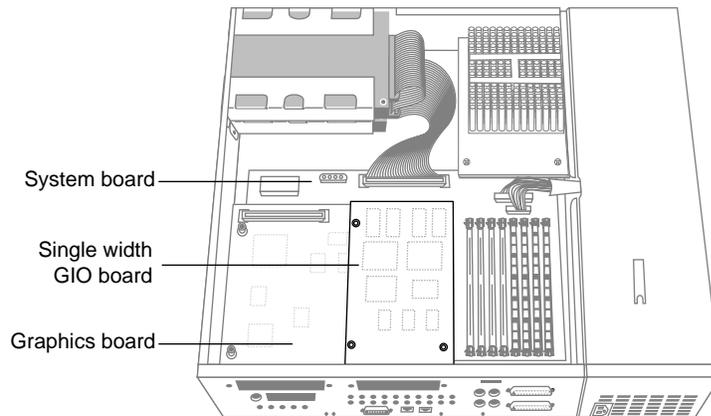

Figure 1-5 Locating the GIO Option Board
GIO option boards are installed on top of the graphics board. A single-width GIO option board covers half of the graphics board; a double-width covers the entire graphics board. Figure 1-5 shows a single-width board.
To determine if your workstation has a GIO option board installed, look at your workstation and at Figure 1-5. If there is a GIO option board installed, follow these steps to remove it. If there is no GIO option board installed, skip to step 6.
1. Locate the GIO option board, as shown in Figure 1-5.